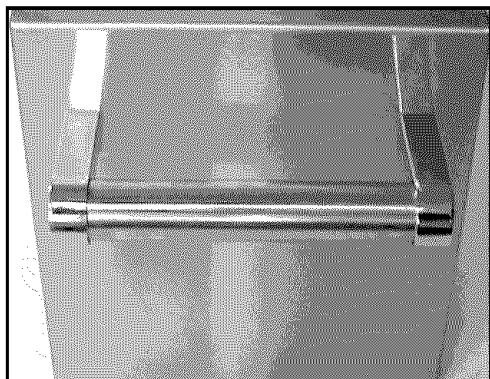

Fig. 11
3. Complete Door. (See Fig. 11)